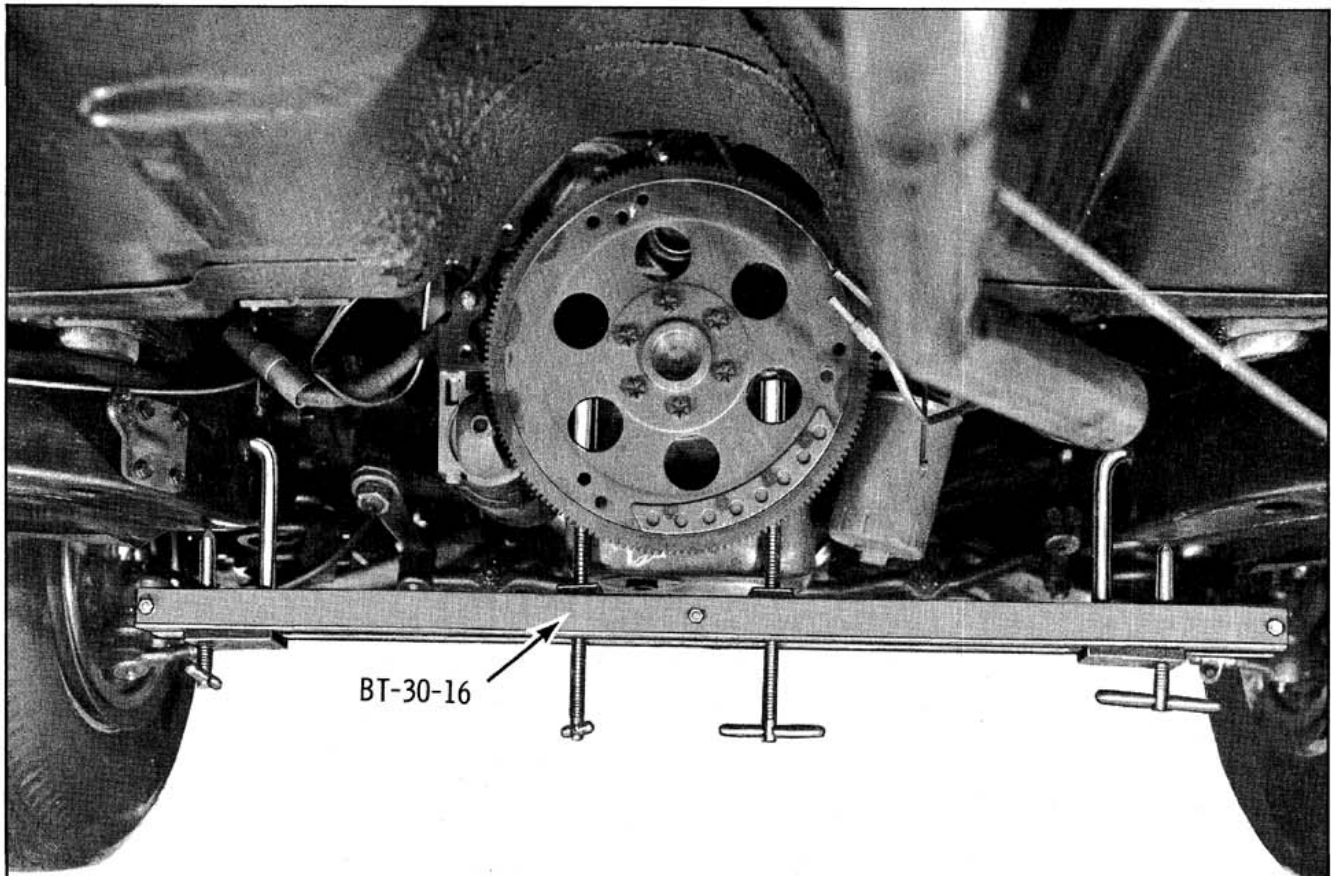

Fig. 6-23 Engine Support Bar
3. Install Engine Support Bar BT-30-16. (Fig. 6-23).